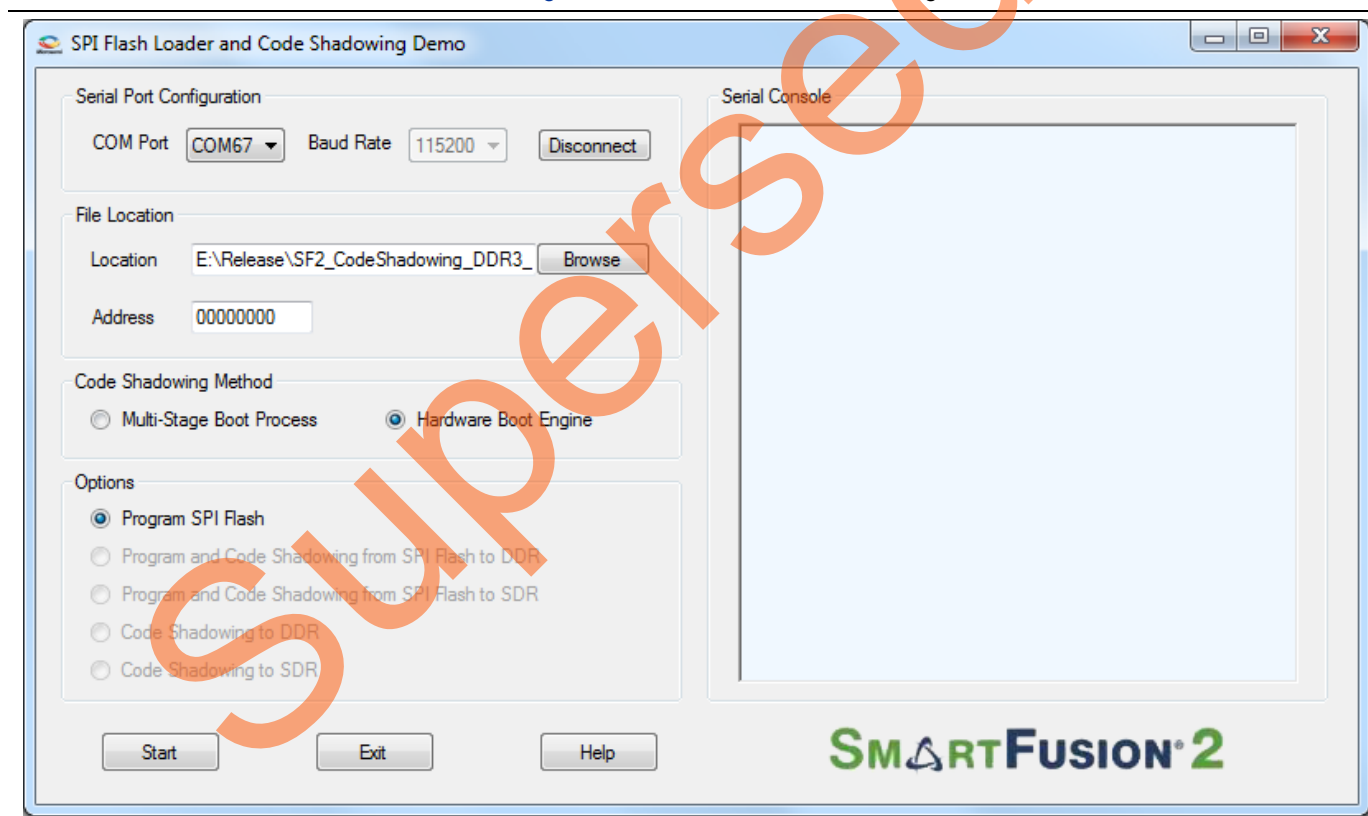

Figure 15. Starting the Demo
10. Click **Start**, as shown in Figure 15. to load the executable image into SPI flash.